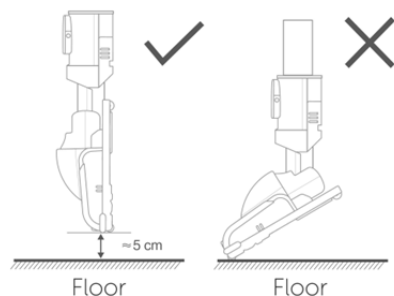

Fig. 6
1. Choose a suitable location for the wall bracket away from areas where it will get wet or knocked and close to a socket. Check that the charge cable will reach the mains socket (180cm distance max) and that there is sufficient space above and below the bracket (approx. 120-125cm below) for the fully assembled vacuum cleaner be inserted. No part of the vacuum cleaner should touch the floor when fitted into the bracket (fig 6).